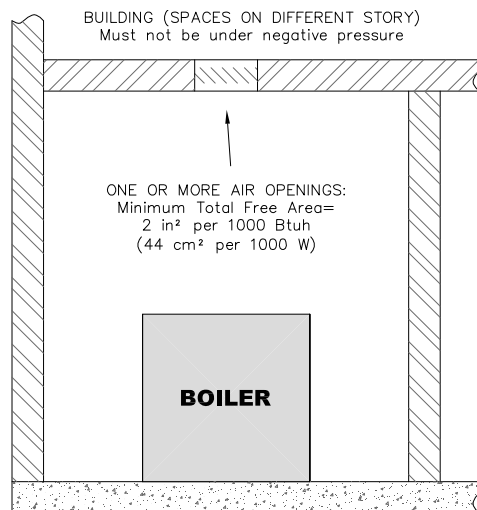

Figure 1.3: Air Openings – All Air from Indoors on Different Floors
- b. **Combining Spaces on Different Floors:** Provide one or more permanent openings communicating with additional spaces that have a total minimum free area of 2 in² per 1000 Btu/hr (44 cm² per 1000 W) of total input rating of all equipment. See Figure 1.3 for an illustration of this arrangement.